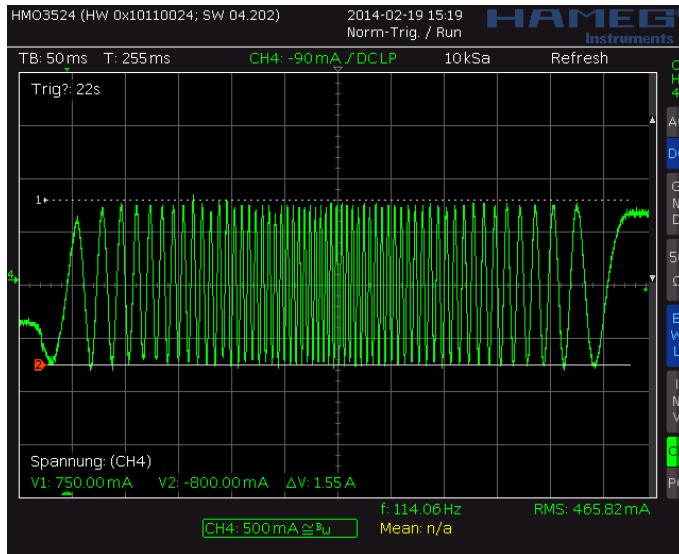
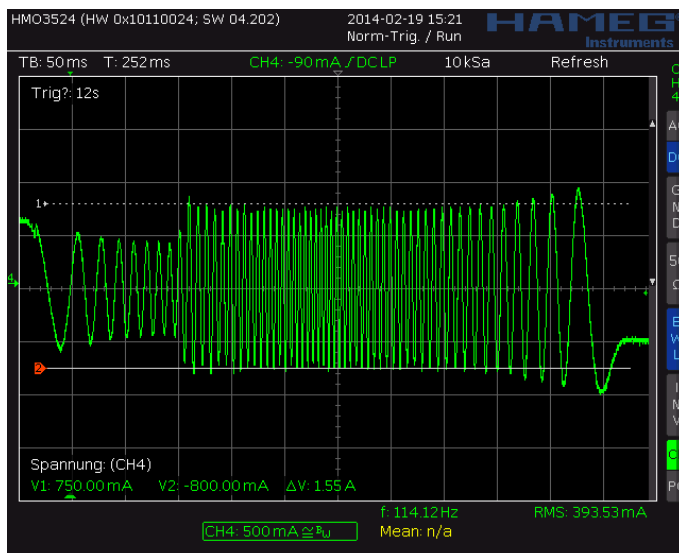
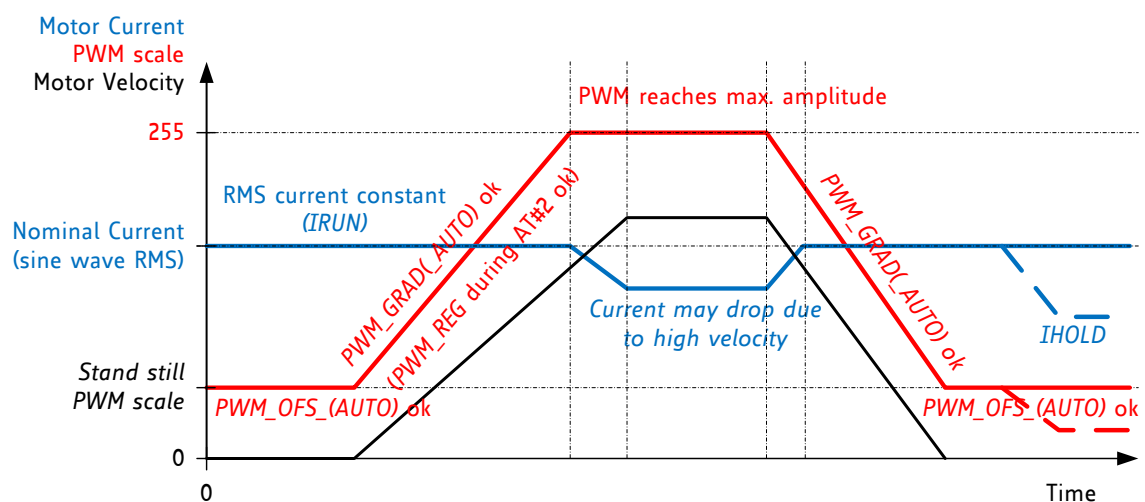

Figure 6.3 Scope shot: good setting for PWM_REG
Figure 6.4 Scope shot: too small setting for PWM_REG during AT#2
Figure 6.5 Successfully determined PWM_GRAD(AUTO) and PWM_OFs(AUTO)
In StealthChop voltage PWM mode, the autoscoping function (*pwm_autoscale* = 1, *pwm_auto_grad* = 1) regulates the motor current to the desired current setting. Automatic scaling is used as part of the automatic tuning process (AT), and for subsequent tracking of changes within the motor parameters. The driver measures the motor current during the chopper on time and uses a proportional regulator to regulate *PWM_SCALE_AUTO* in order match the motor current to the target current. *PWM_REG* is the proportionality coefficient for this regulator. Basically, the proportionality coefficient should be as small as possible in order to get a stable and soft regulation behavior, but it must be large enough to allow the driver to quickly react to changes caused by variation of the motor target current (e.g. change of *VREF*). During initial tuning step AT#2, *PWM_REG* also compensates for the change of motor velocity. Therefore, a high acceleration during AT#2 will require a higher setting of *PWM_REG*. With careful selection of homing velocity and acceleration, a minimum setting of the regulation gradient often is sufficient (*PWM_REG*=1). *PWM_REG* setting should be optimized for the fastest required acceleration and deceleration ramp (compare Figure 6.3 and Figure 6.4). The quality of the setting *PWM_REG* in phase AT#2 and the finished automatic tuning procedure (or non-automatic settings for *PWM_OFS* and *PWM_GRAD*) can be examined when monitoring motor current during an acceleration phase Figure 6.5.